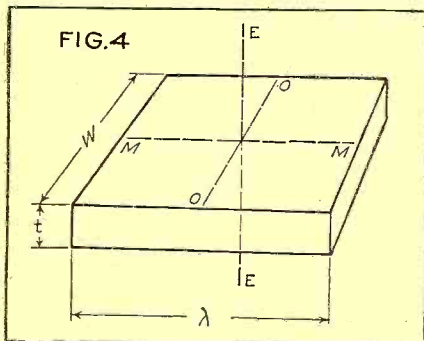
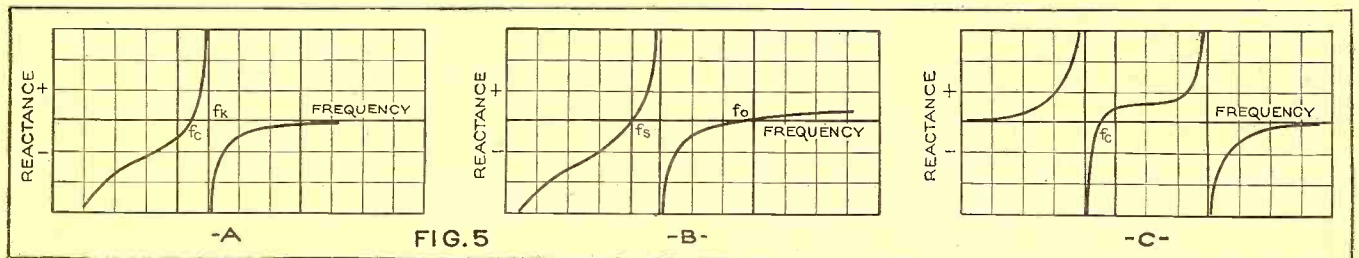

FIG. 4
FIG. 5
Crystals for filter use are cut as follows: The length λ is parallel to the mechanical axis; the width w is parallel to the optical axis; the thickness t being parallel to the electrical axis. This plate, shown in Figure 4, is, in effect, a zero angle or X type. Plates cut with different orientations are entirely feasible, especially if the absolute minimum in temperature coefficients is desired. The plate cut as described exhibits, to a point somewhat above its first resonance, an impedance corresponding to that of the simple circuit of Figure 3—provided its length is greater than the width, i.e., $\lambda = 3w$ or more—this impedance being shown in the curves of Figure 5 (A)